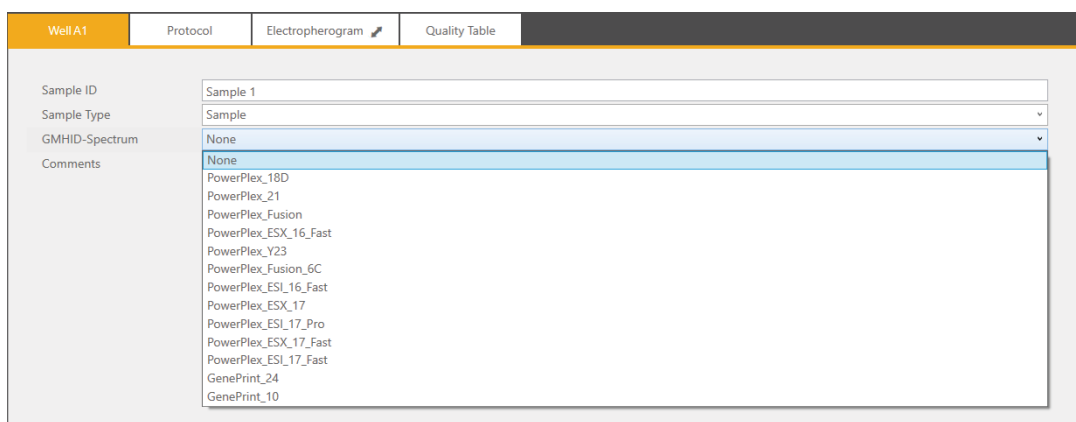

Figure 11. Drop-down options for GMHID-Spectrum run wizard templates.
6. **Optional:** Select **PowerPlex_Fusion_6C** in the GMHID-Spectrum drop-down menu (Figure 11).